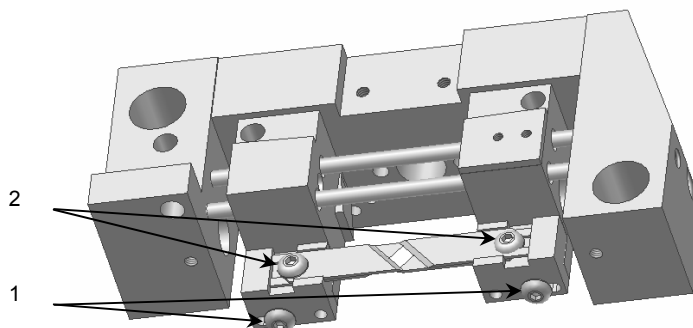

Figure 9: Stripping slide (backside)
<ul style="list-style-type: none"> <li>• Stripping blades changing position</li> <li>• See Figure 9: Stripping slide (backside)</li> <li>• Remove the fixing screws of the blade fasteners (1) at the stripping unit.</li> <li>• Remove the blade fasteners.</li> <li>• Loosen the fixing screws of the blades (2). Open them for only 1 – 2 rotations but do not unscrew them completely.</li> <li>• Take out the blades.</li> <li>• Put the new blades in correct position up to the limit stop and screw them on.</li> <li>• Mount the blade fasteners and screw them on.</li> </ul>	<ul style="list-style-type: none"> <li>• Stripping blades changing position</li> <li>• See Figure 8: Striping blades changing position</li> <li>• Remove the left, red marked screw (5) and the protection plate (4).</li> <li>• Unscrew both fixing screws of the table guidance (9) from the back.</li> <li>• Pull the table guidance (9) to the front down of the two guiding pins and take it out to the right below the magazine holder (6).</li> <li>• Remove the flat head screw above the ferrule cutting blade and change the blade.</li> <li>• Take care that the ferrule cutting blade fits in the groove and up to the limit stop before bolting the flat head screw.</li> <li>• Put the table guidance from the right side below the magazine holder onto the lower slide. Push it careful on the two guiding pins and screw it on from the back.</li> <li>• Fix the protection plate (4) with the red marked screw (5).</li> </ul>